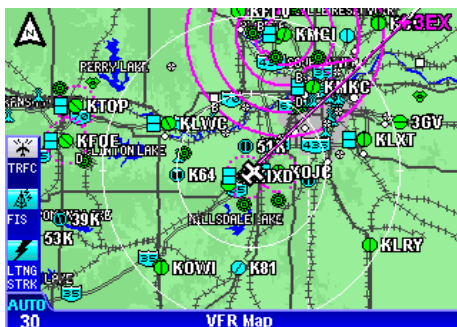

Figure 1-27
2. Pressing and holding either **RNG** Key for 2 seconds or more. While Auto Zoom is enabled, **AUTO** is displayed in light blue text above the current range setting (see Figure 1-27).